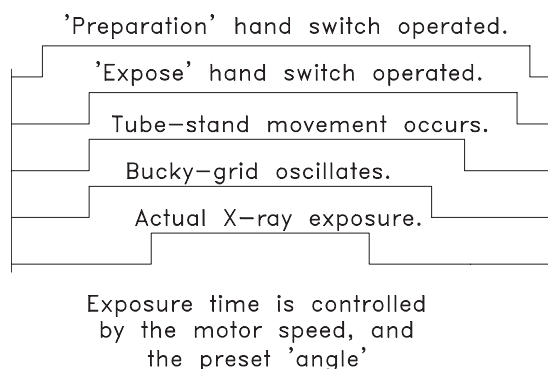

Fig E-43. Timing chart for a tomographic exposure
- A typical timing chart is provided in Fig E-43.